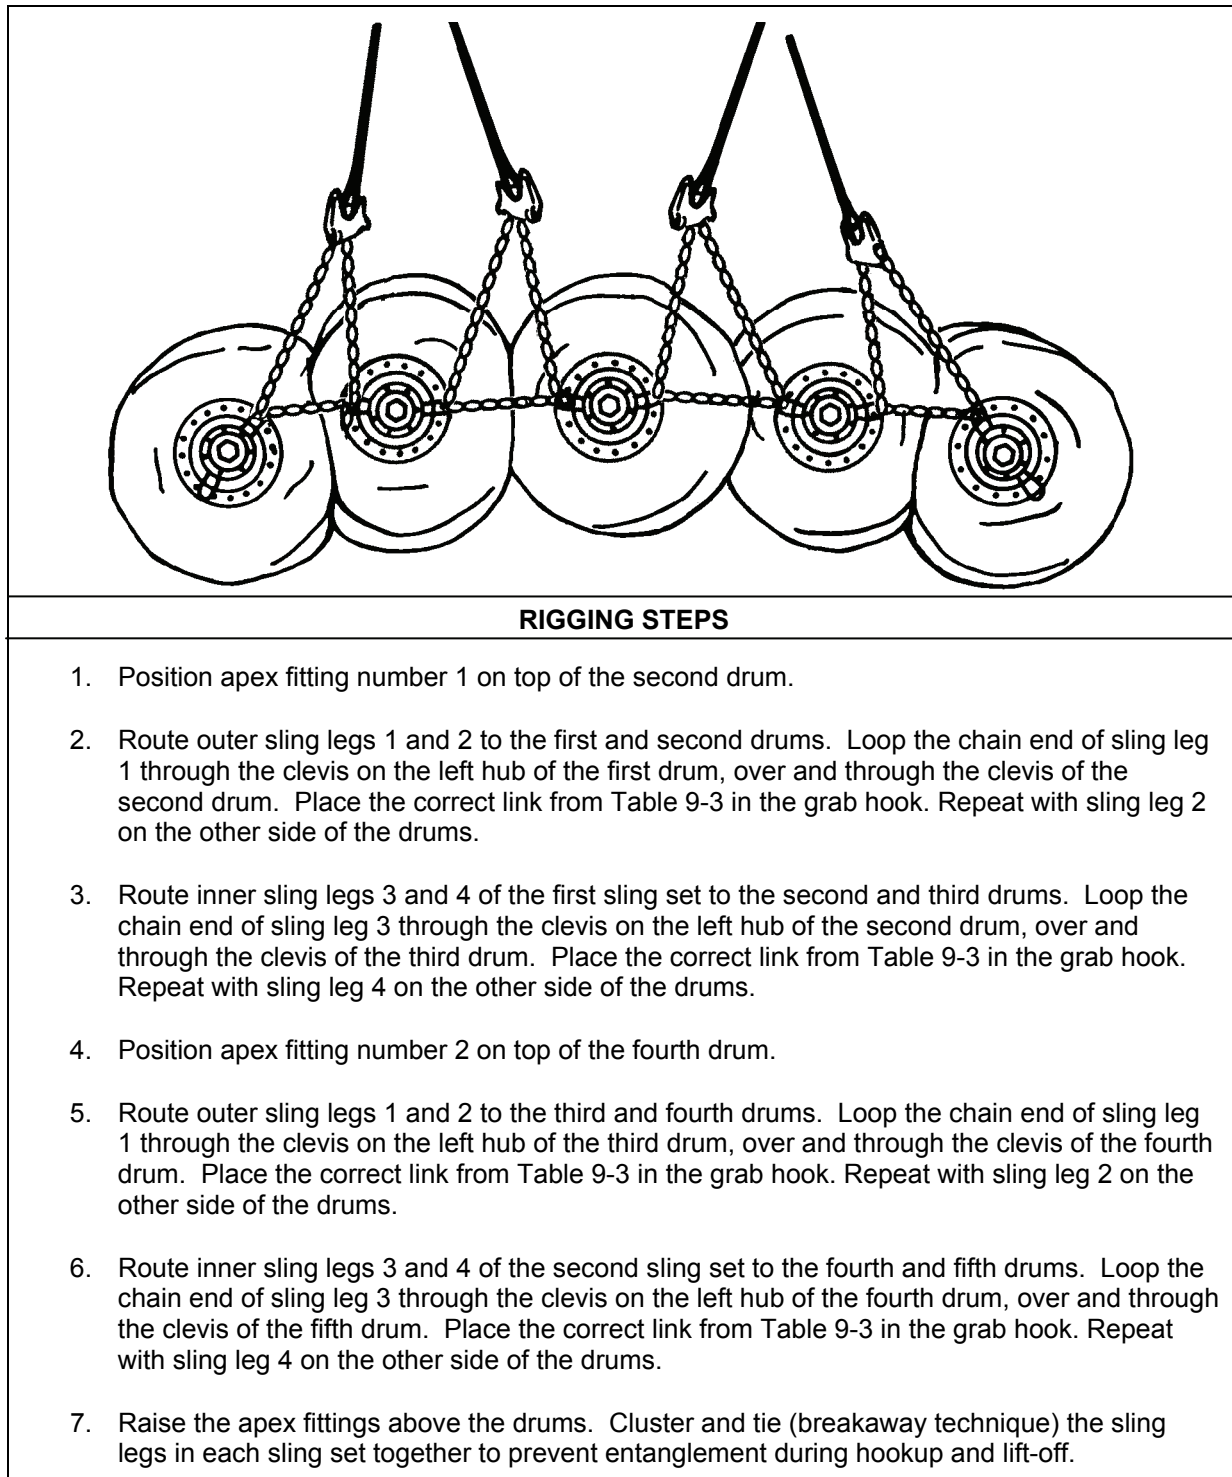

Figure 9-3. Five 500-Gallon Fuel Drums
- **Rigging.** Rig the load according to the steps in Figure 9-3.